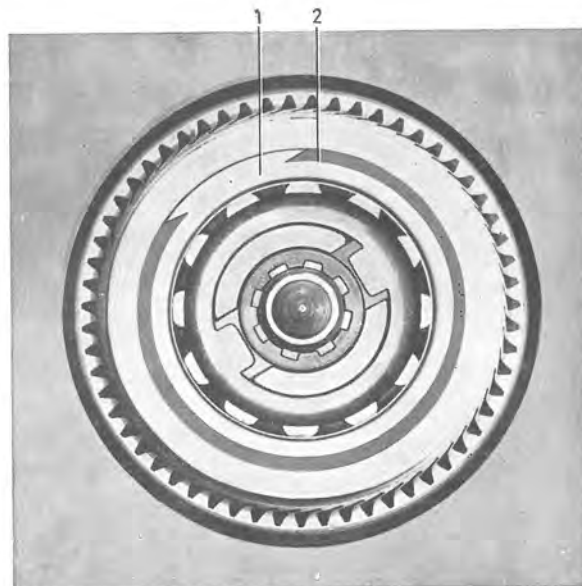

Fig. 4-57. Installing oil thrower
6. Fit the thrust washer and then the uni-directional clutch in position on the output shaft, see Fig. 4-56. Fit the oil thrower and install the circlip, see Fig. 4-57.